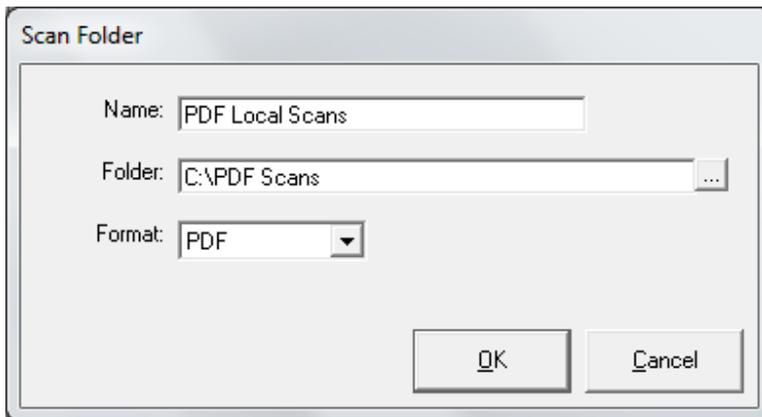

Fig 3-17
1. From the Manage Printers interface and in the Scan Destinations field, highlight an existing scan destination and below the Scan Destinations field, click [Edit] to open Scan Folder (Fig 3-17).